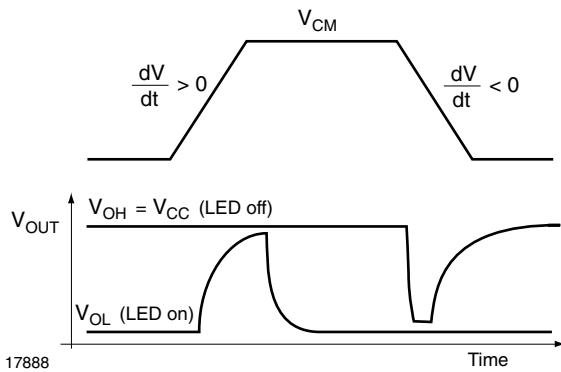

Fig. 12 - Common Mode Signal and the Distorted Output Signal
In cases where the LED is on, the above considerations are also valid (equations (9) and (10)). However, as figure 12 indicates, the critical point is now the rising edge of the transient.